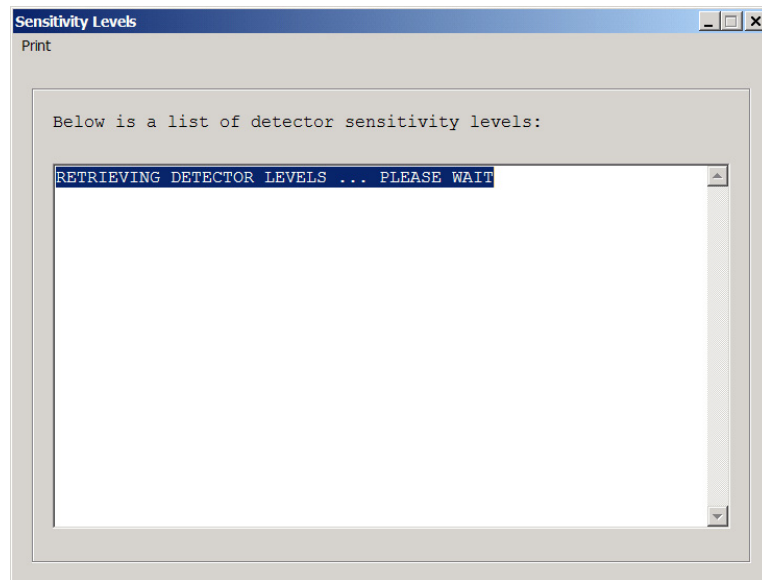
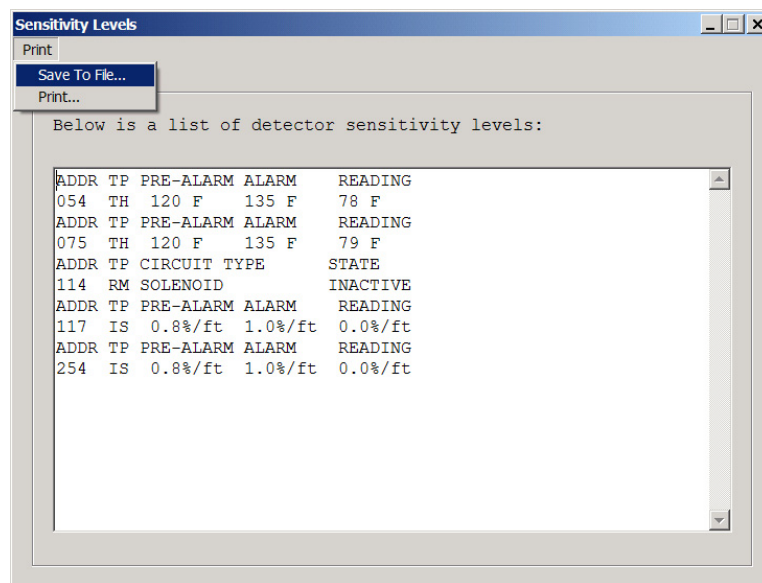

Figure 4-17. Retrieving Sensitivity Levels
Figure 4-18. Displayed Sensitivity Levels
4. Select **<OK>**. The following 'Sensitivity Levels' dialog is displayed. In response, the 'Sensitivity Levels' dialog announcing the retrieval of the sensitivity levels (Figure 4-17) is displayed. After the query has finished, the sensitivity levels (Figure 4-18) are displayed. Within the 'Sensitivity Levels' screen, there are two menu options: Save As and Print.